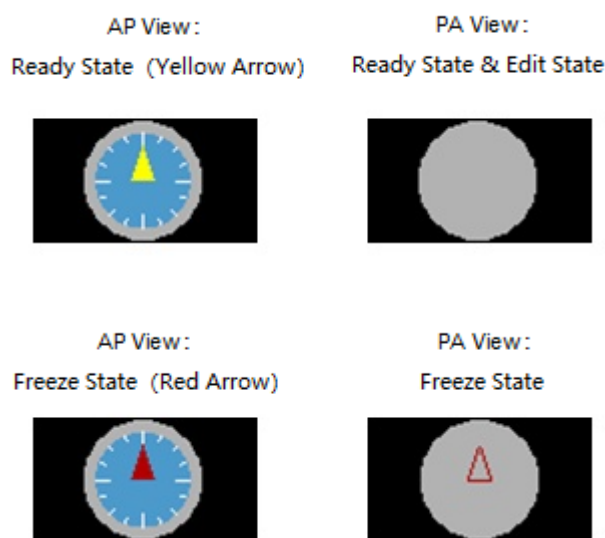

Figure 7-1 Patient Icon
- The patient icon represents the position and orientation of the head and face of the patient and displays the current working status of the system (Figure 7-1).